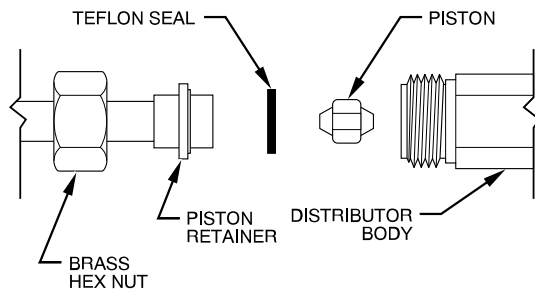

Fig. 16 – Refrigerant Flow-Control Device
2. Recover refrigerant from tubing and coil through high flow service port on suction and discharge lines. Disconnect refrigerant (liquid) tube from distributor body. (See Fig. 16.)